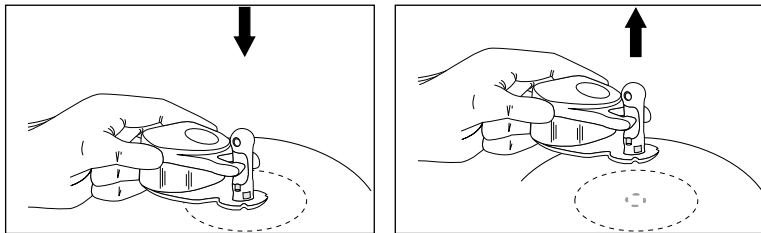

FIGURE 3
Step 5: With the magnet of the MAGNA-FINDER® Xact centered in the MAGNA-SITE® injection site, gently press the MAGNA-FINDER® Xact into the skin covering the injection site. The protrusions on the underside of the MAGNA-FINDER® Xact will leave temporary indentations in the skin when the device is lifted. The injection site is located in the center of the circle created by the indentations (**Figure 3**).